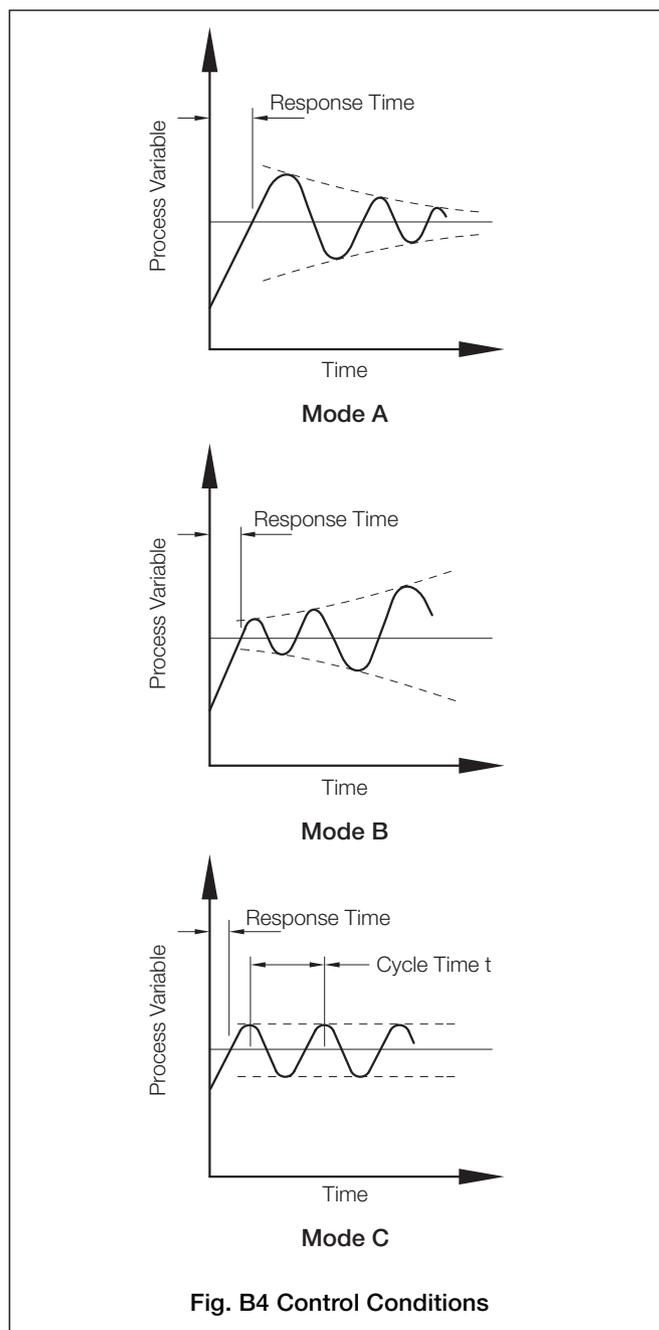

Fig. B4 Control Conditions
- If the system goes into oscillation with increasing amplitude (Fig. B4 Mode B), reset the proportional band to 200%. If oscillation continues as in Mode B, increase the proportional band further until the system ceases to oscillate.
- If the system oscillates as in Fig. B4 Mode A, or does not oscillate, refer to step c).
- d) Note the cycle time 't' (Fig. B4 Mode C) and the **Proportional Band** (critical value) setting.